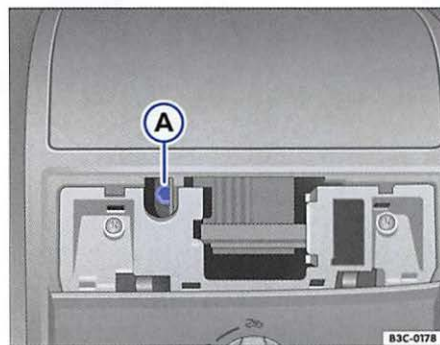

Fig. 173 Hexagon head screw for closing the power sunroof.
- Insert a commercially available 4 mm hexagon socket wrench (Allen wrench) ³⁾ into the hexagon head screw ⇒ fig. 173 A. ▶